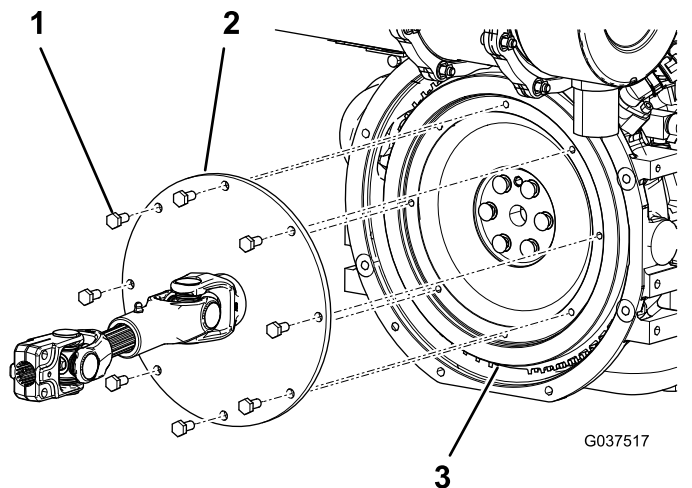

Figure 3
- Remove and discard the 8 cap screws securing the large end of the existing driveshaft to the engine flywheel (Figure 3).